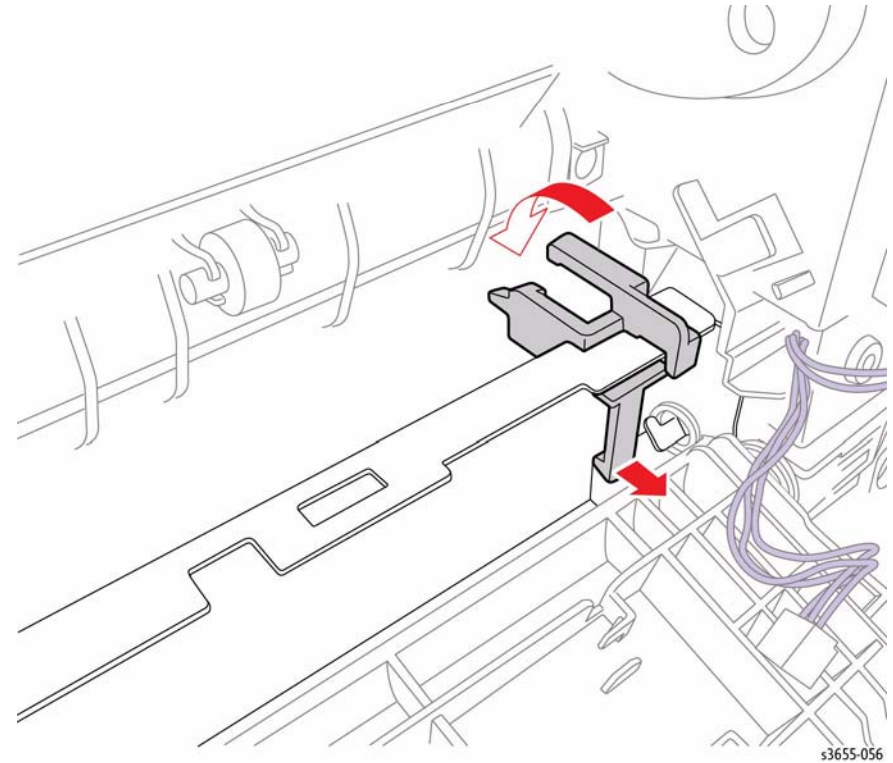

Figure 2 Remove the Tray 1 Stopper
5. Refer to Figure 2 to locate and release the bottom clip then rotate the Tray 1 Stopper inward to remove.